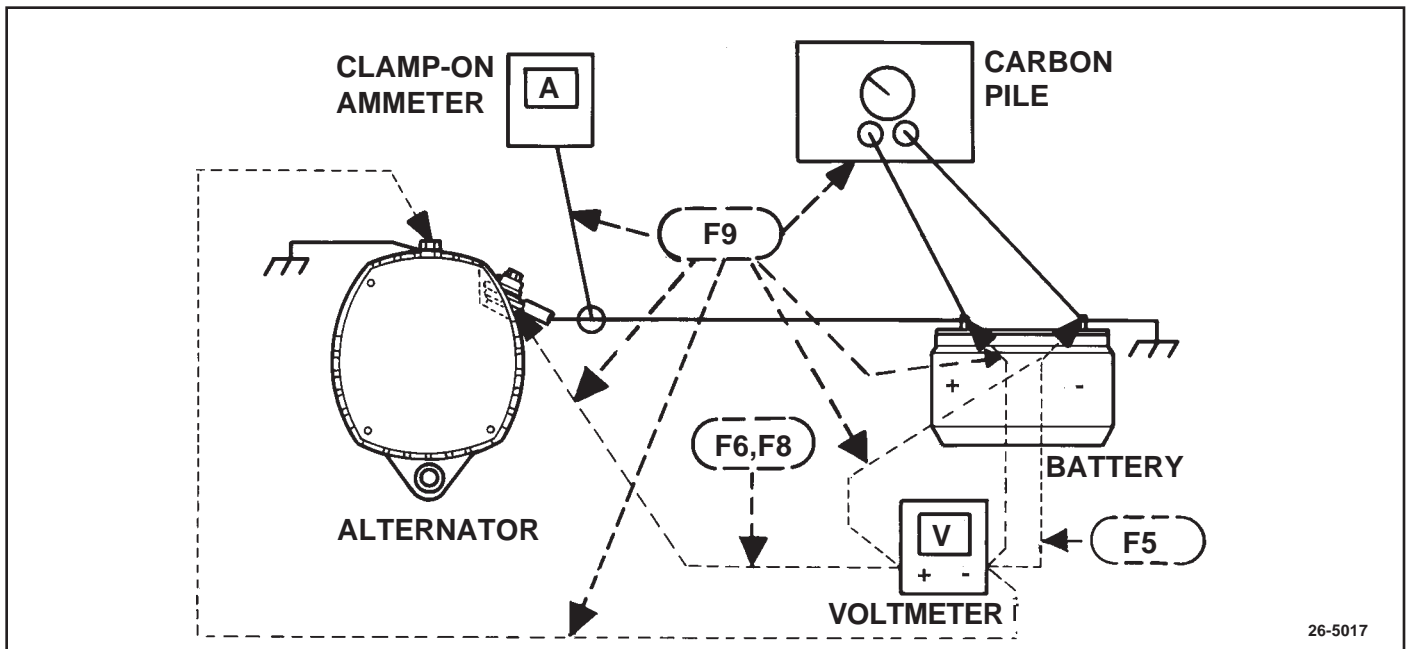

Figure 9. Rated Output Check
1. Refer to Fig. 9 for test equipment hookups as described in following steps. If inductive pickup (“clamp on”) type ammeter is used, place current clamp on alternator output lead and skip to Step 4. If series ammeter is used, disconnect grounded battery cable at battery first.